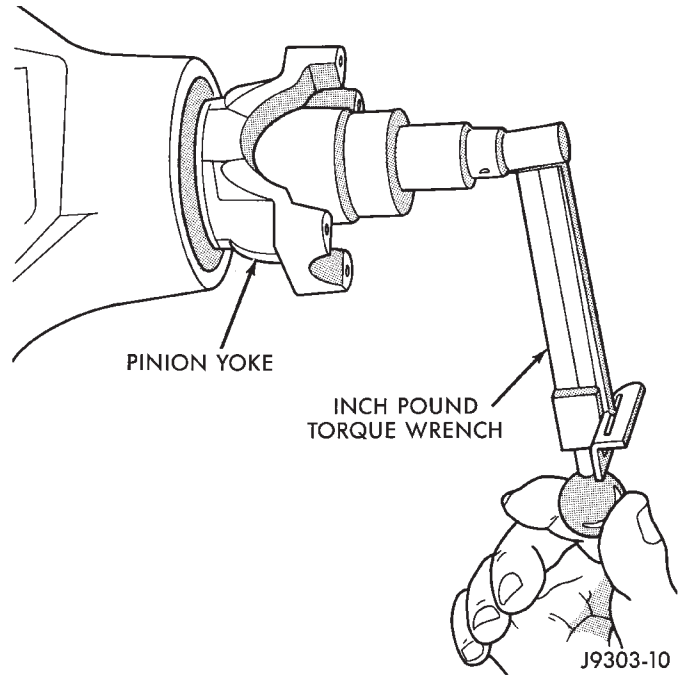

Fig. 9 Check Pinion Rotation Torque
(3) Install the pinion washer and a new nut on the pinion gear. **Tighten the nut only enough to remove the shaft end play.**
(4) Tighten pinion nut to 217 N·m (160 ft. lbs.).
(5) Rotate the pinion shaft using a (in. lbs.) torque wrench. Rotating torque should be equal to the reading recorded during removal, plus an additional 0.56 N·m (5 in. lbs.) (Fig. 9).